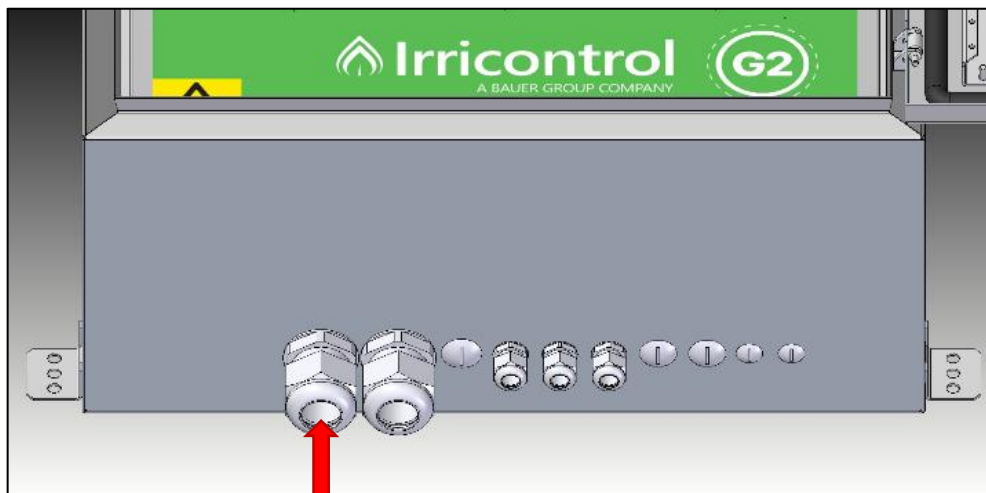

Figure 8 - Cable gland (PG) for the cabinet power supply cables.
- A. Pass the cable through the PG29 cable gland, shown in Figure 8.